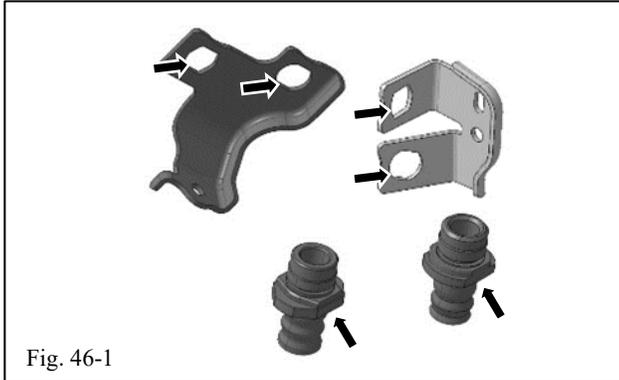

Fig. 46-1
- (a) Confirm that the correct hose is selected for the proper location by matching the hose end fitting shape to the corresponding frame side and axle side bracket shape. Identify the rear brake hose by the ID mark color on each part (Fig. 46-1):